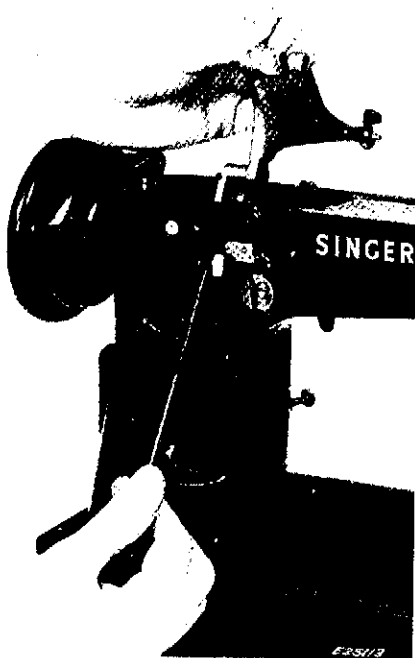

Fig. 76. Step 2
6. Lift frame upward with left hand and pivot pitman clockwise (90 degrees) with right hand until driving link is aligned with pitman and is at top of machine arm as shown in **Fig. 76**.
2. Pivot pitman counter-clockwise (90 degrees) with right hand while holding frame in left hand until assembly is in position shown in **Fig. 76**.